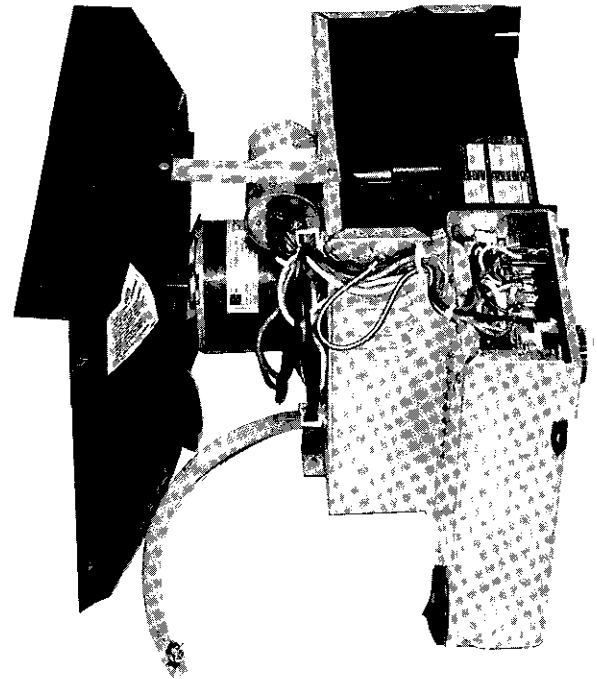

Fig 19 — Partition Assembly
- g Lift partition assembly out of unit See Fig 19 When lifting, carefully grasp secure parts and lift gently Obtain assistance in lifting if necessary